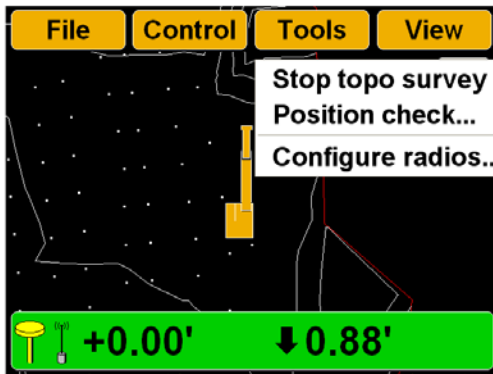

Figure 5-42. Stop Topo Survey
4. To stop topo measurements, press **Topcon Logo ▶ Stop topo survey** (Figure 5-42 on page 5-34). Otherwise, 3Dxi continues logging measurements.